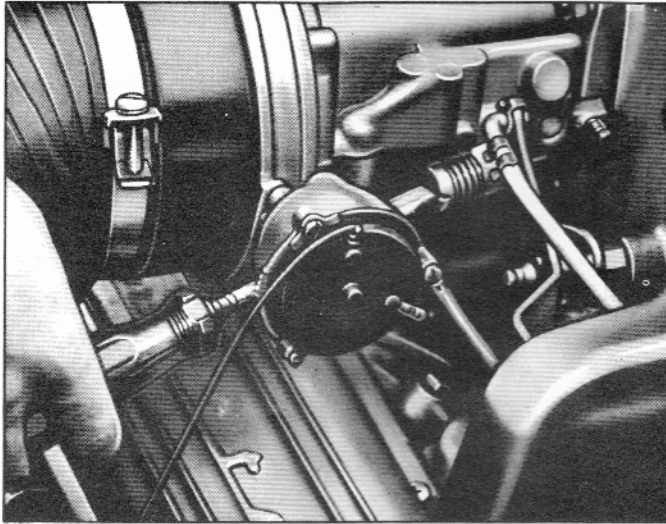

Fig. 20—Adjusting Idle Speed Screw
2. With the engine running, bring the idle speed up to approximate specifications by adjusting the idle speed screw (fig. 20). (See Specifications)